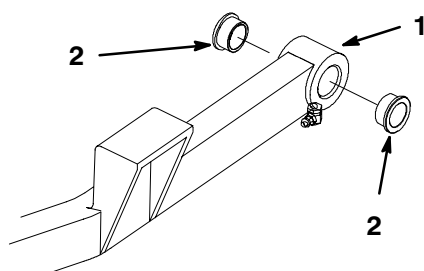

Figure 77
4. Insert a pin punch into the push arm and carefully drive out the bushings (Fig. 77). Clean the inside of the push arm.
5. Use a hammer and flat plate to carefully drive new bushings into the end of push arm (Fig. 77).